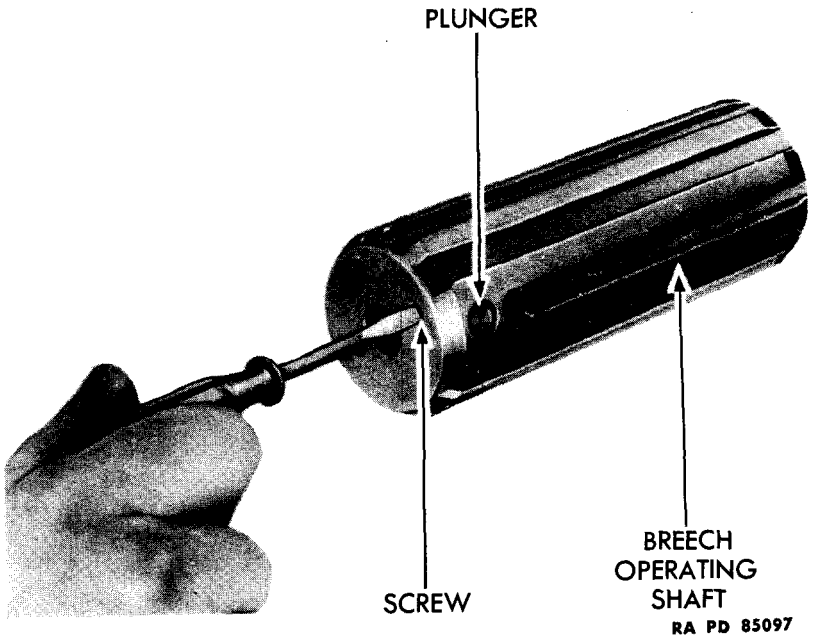

Figure 35 — Removal of Breech Operating Shaft Plunger Screw
h. Remove Plunger and Screw from Breech Operating Shaft (fig. 35). Remove screw that secures operating shaft plunger in operating shaft and push plunger from shaft.